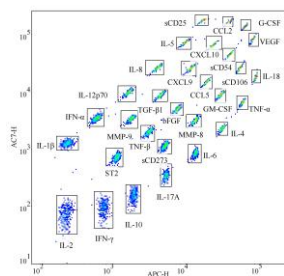

Figure 2
- 3) ~~Establish~~ Create an APC-H/APC-Cy7-H scatter plot. ~~Identify the individual bead populations from the main P1-gated bead cluster population, identify individual bead populations~~ and gate each ~~specific~~-cytokine-specific bead population using rectangular gates, as shown in (Figure 2).